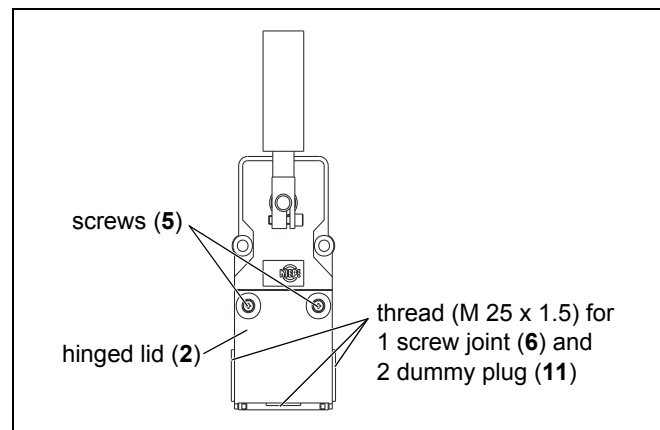

Fig. 5-7: Placing misalignment switch in operation
1. Before commissioning of the misalignment switch, make certain the seal is secure (see *Fig. 5-7*):